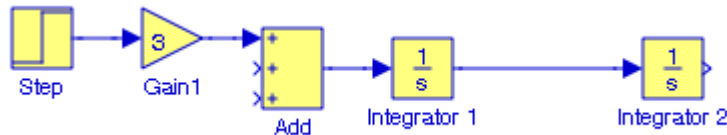

Figure 1.11. File Equation_1_26 with the addition of two integrators
6. From the **Commonly Used Blocks** of the **Simulink Library Browser**, we choose the **Integrator** block, we drag it into the Equation_1_26 model window, and we connect it to the output of the **Add** block. We repeat this step and to add a second **Integrator** block. We click the text “Integrator” under the first integrator block, and we change it to Integrator 1. Then, we change the text “Integrator 1” under the second Integrator to “Integrator 2” as shown in Figure 1.11.